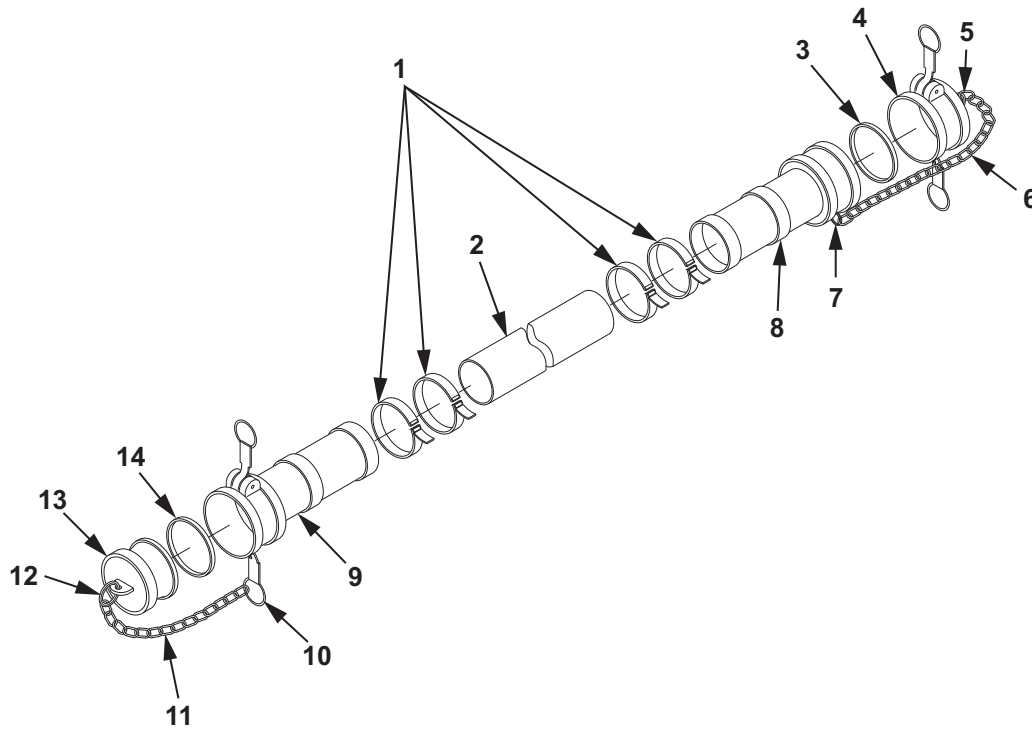

Figure 5. 4 In. X 10 Ft. Discharge Hose Repair.
12. Using a multimeter, perform continuity test between male and female coupling assemblies (Figure 5, Item 3, 4) at each end of the hose assembly to ensure ground wires are firmly seated. Continuity must exist.